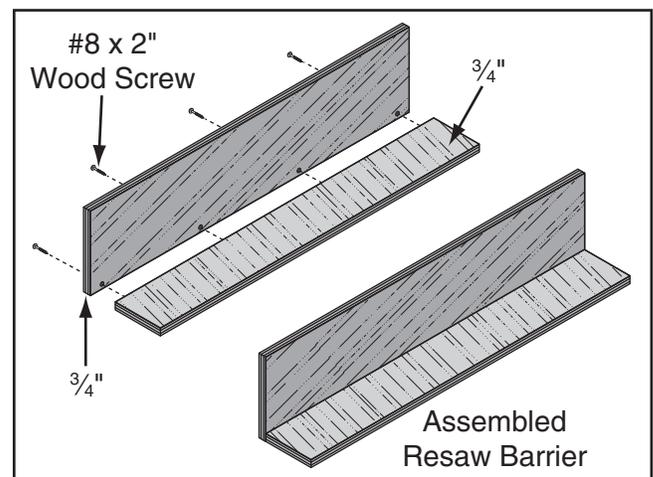

Figure 71. Resaw barrier.
3. Glue the end of the 3" board, then clamp the boards at a 90° angle with the larger board in the vertical position, as shown in **Figure 71**, fasten together with the wood screws.